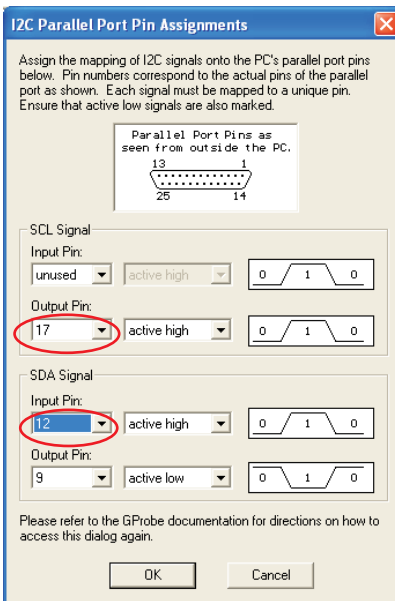

Fig.6
3. From the menu that appears, choose the number 17 in "output pin and the number 12 in " input pin as shown in Fig.6